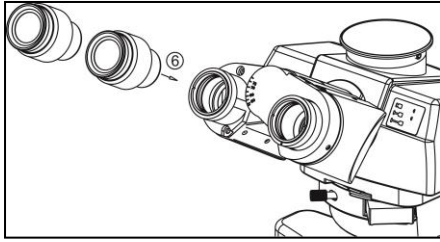

Fig 7
#### 4-2-5 Install Eyepiece(fig 7)
1. Inset eyepiece into the eyepiece sleeve according to the path ⑥ shown in the figure 7.